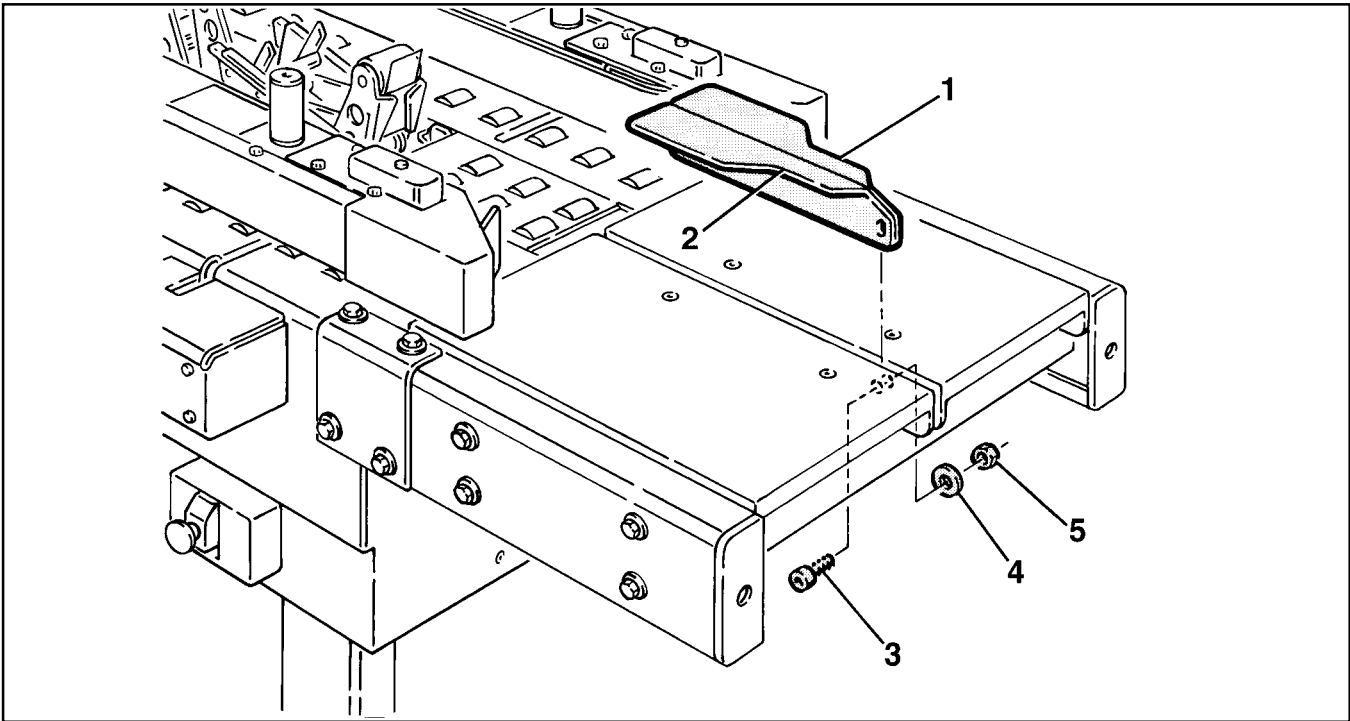

Figure 1 – Installation/Parts Illustration
1. Refer to Parts Illustration, Figure 1 (back page), to find part needed and reference number.
1. Place the right and left hand parts of the box holder (see Figure 1) over the platform and align with existing two center holes in platform flanges.